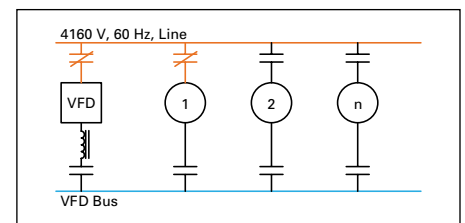

Figure 10.4-18. Motor #1 on Bypass
- VFD opens drive output contactor (**Figure 10.4-18**)